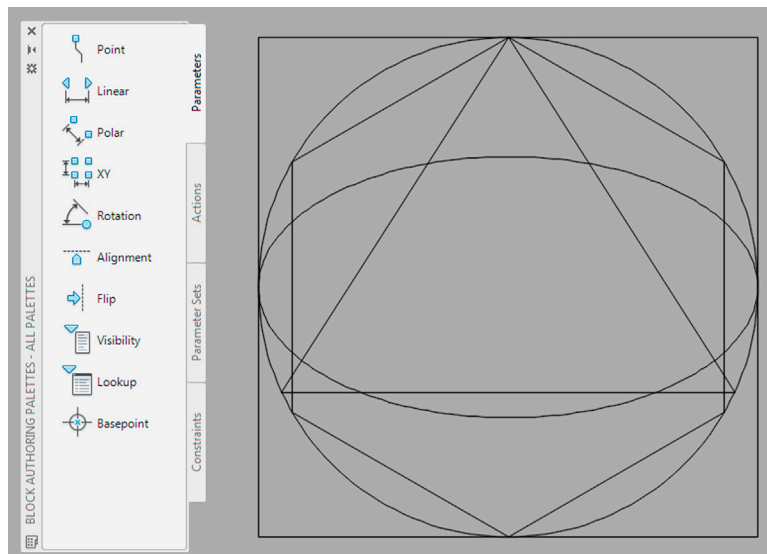

FIGURE 7.20 Combined shapes in *bedit*.
Step 2. Put all the shapes on top of each other, centering them at the top. Make a block out of all of them calling it *Main_Block*. Then go into the dynamic block editing mode via *bedit* or just double clicking on *Main_Block*. You should see what is shown in Fig. 7.20.